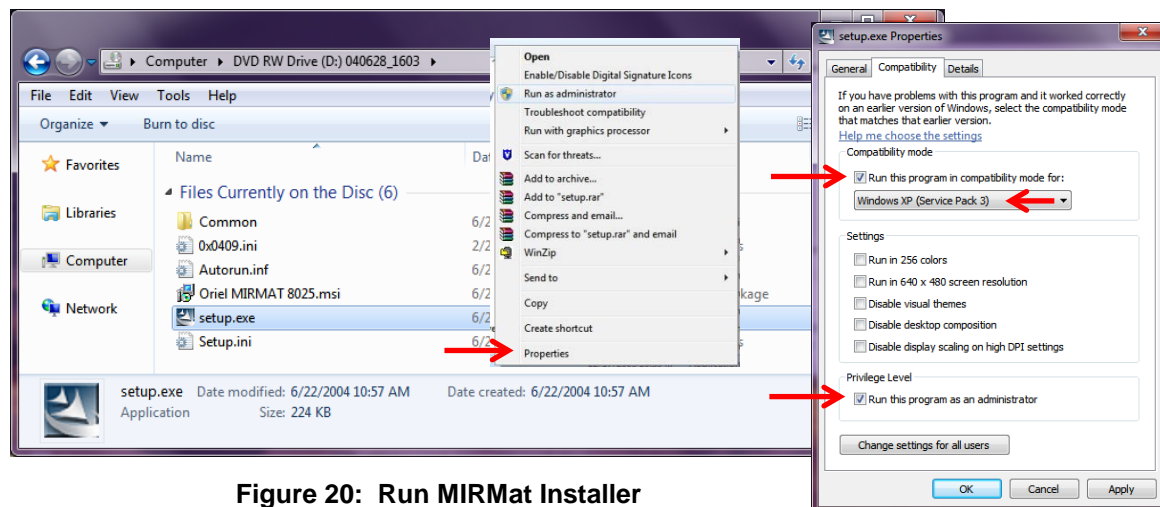

Figure 20: Run MIRMat Installer
14. Right click the setup.exe application and choose “Properties” per Figure 20. Check the box to install the software in compatibility mode and ensure Windows XP (Service Pack 3) is selected. Check the box to run as administrator, and then click “OK”.